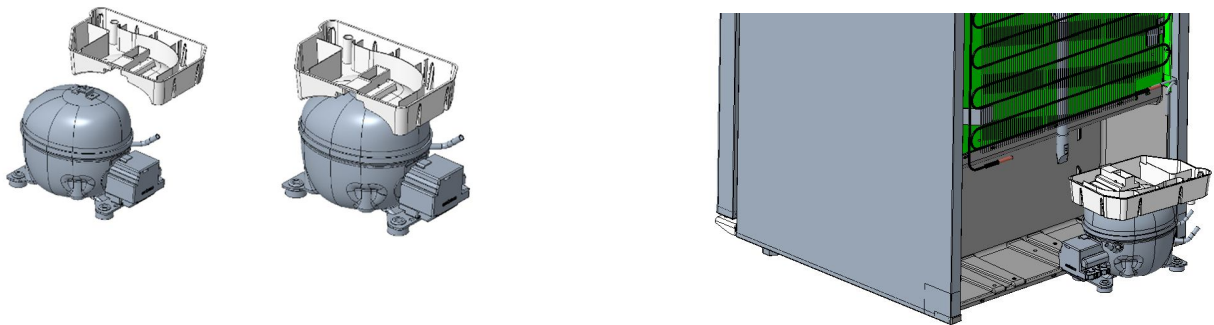

Fig. 10
2. Remove tray by pulling outside as shown in figure 10